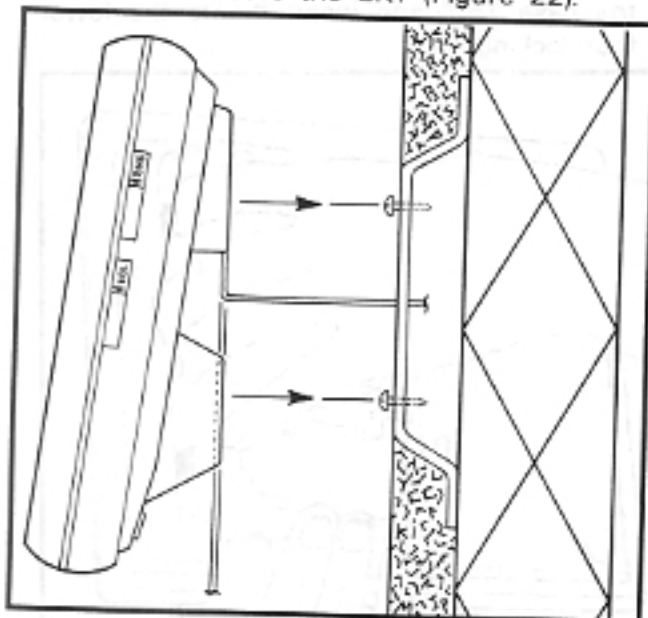

FIGURE 22—EKT WIRE ROUTING
- 4) Route the tail cord through the holes in the base and secure the EKT (Figure 22).